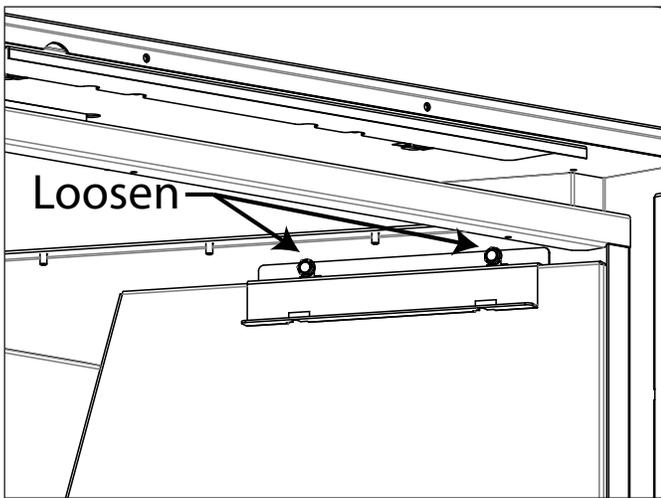

Figure 19: Liner Retainer Removal
4. The components can be accessed behind the right liner panel. Loosen the two (2) bolts on the right liner retainer using a 5/16" socket until it can be removed. See Figure 19.